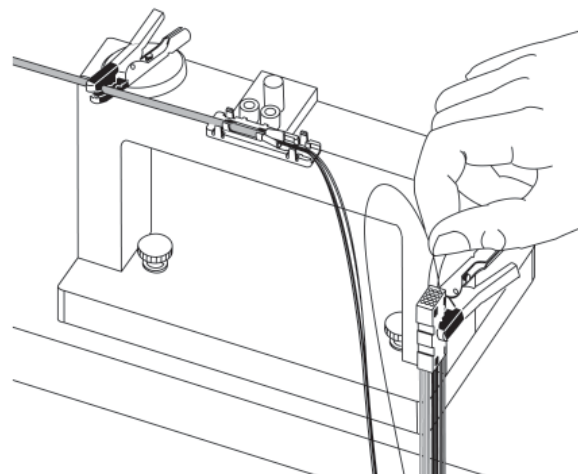

Figure 15
7.2 Carefully thread about three inches of the first fiber into the #1 900 μm tube (Figure 15).